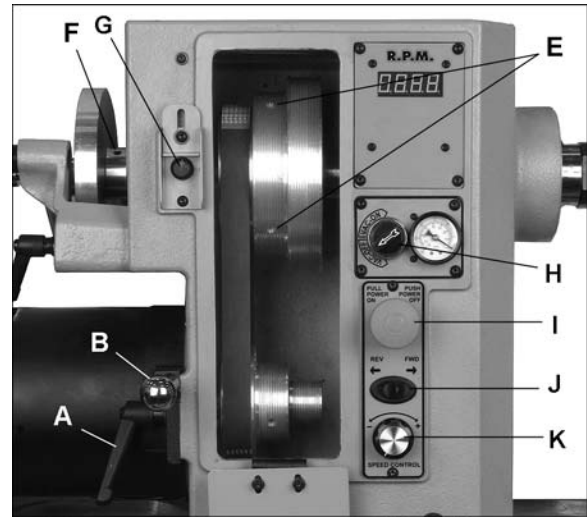

Figure 33
1. Push spindle lock button (see G, Figure 33), and rotate spindle slightly until button goes entirely into recess. Slide plate down over button.
The motor and spindle sheaves are aligned with each other at the factory, but if any service is performed that affects their alignment it is very important that they be realigned. To realign them, loosen the two set screws on the spindle sheave (E, Figure 33) with a hex key, and slide spindle sheave into proper position. Re-tighten set screws.
See Figure 33.
7. If replacing spindle sheave, loosen two set screws (E, Figure 33), and slide sheave off spindle.
10. Reinstall handwheel and tighten set screws (F, Figure 33).
11. Align new sheave (see section 9.14, "Sheave and Belt Alignment") then tighten two set screws (E, Figure 33) securely on sheave.
See Figures 33 and 34.